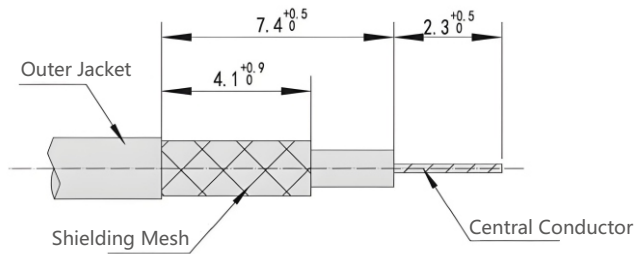

Figure 2.1
①As shown in Figure 2.1, strip the cable. The end must be cut clean and form a right angle with the cable's axial surface. The cable must not be deformed during cutting.